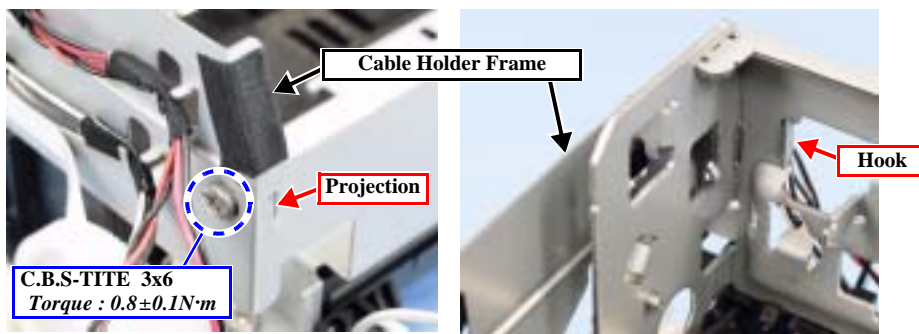

Figure 4-69. Removing the Cable Holder Frame
9. Remove the screw, and remove the Cable Holder Frame. (Fig. 4-69)
- When installing the Cable Holder Frame, ensure that it is positioned correctly in the front and back direction. (Fig. 4-69)